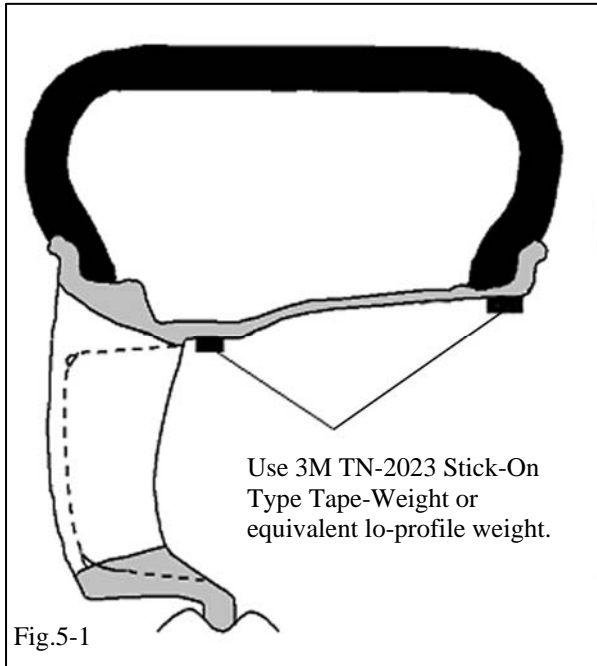

Fig.5-1
- (a) Mount wheel/tire on wheel balance machine and balance in DYNAMIC MODE. Enable the LOAD ROLLER, if applicable, to ensure proper bead seating. Use **3M TN-2023** or equivalent stick-on type weights. (Figs. 5-1 & 5-2)